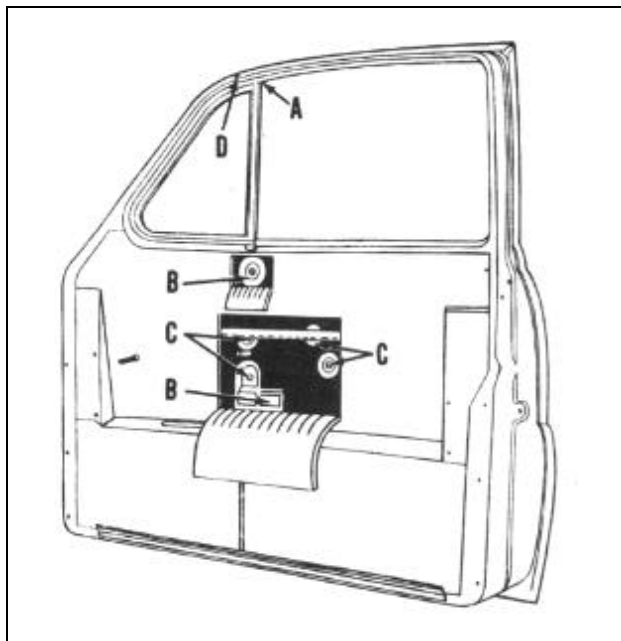
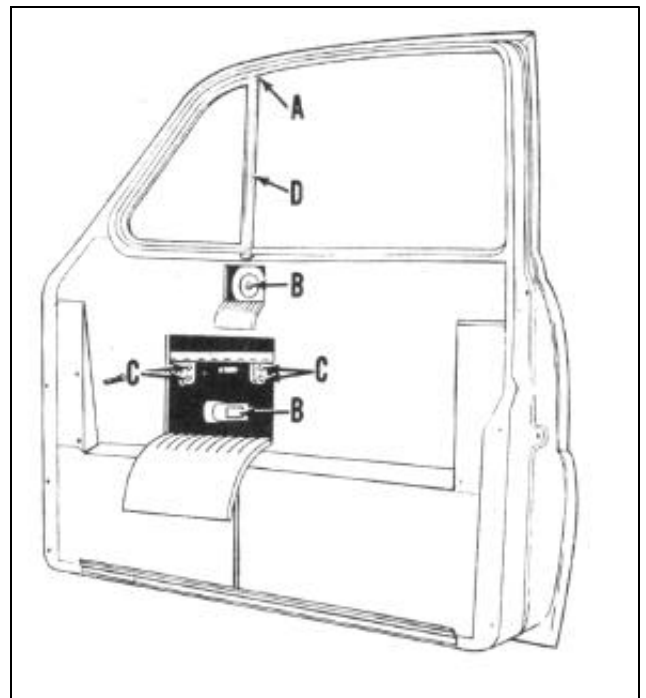

FIGURE 1
FIGURE 2
3. Cut liner as shown in Figure 1 for sedans, Figure 2, for coupes and two door sedans.
4. Cut door inner liner as shown in Figures 1 and 2.
5. Remove screw (A) and two screws at (B). 6. Remove center glass channel (D) or lower it into the door.